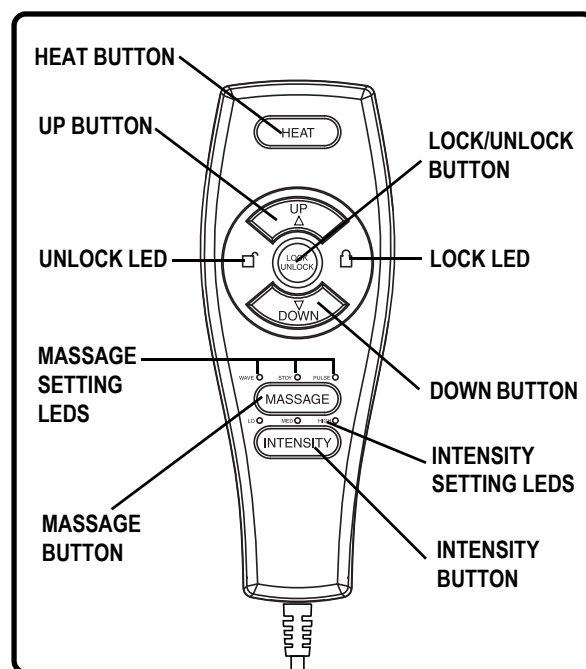

Figure 5.2 Heat and Massage Hand Control
**Follow these steps to sit in your riser recliner (Fig. 5.2):**
**Follow these steps to recline your riser recliner from the seated position (Fig. 5.2):**
**Follow these steps to stand up from your riser recliner (Fig. 5.2):**
**Follow these steps to activate/deactivate the lock feature (Fig. 5.2):**
**Follow these steps to operate the heat function (Fig. 5.2):**
**Follow these steps to operate the massage option (Fig. 5.2):**
**Follow these steps to adjust the intensity of the massage function (Fig. 5.2):**